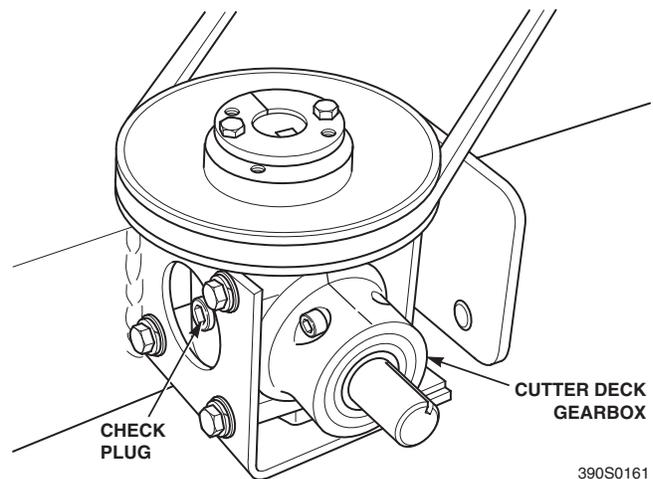

Figure 7-12 Cutter Deck Gearbox
The fluid level in the cutter deck gearbox (Figure 7-12) should be checked after every 100 hours of operation or bi-weekly, whichever occurs first.
- Clean and remove the check plug from the side of the gearbox (See Figure 7-12). Visually check that the lubricant level is up to the bottom edge of the check plug hole. If lubricant is low, add SAE 80/90 lubricant through the check plug hole in the gearbox until it is level with the bottom of the check plug hole. Install the check plug and tighten securely.